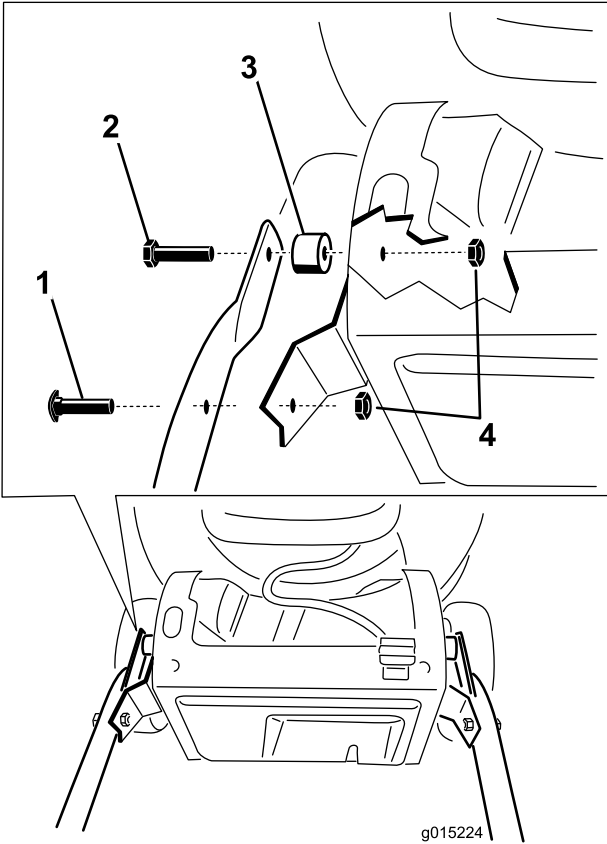

Figure 4
2. Attach the handle to the machine housing (Figure 4) using the 4 bolts, 4 locknuts, and 2 spacers in the loose parts bag.